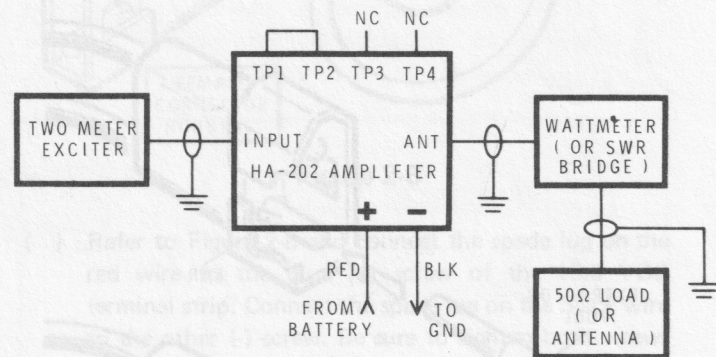

Figure 2-12
- ( ) Interconnect your equipment as shown in Figure 2-12. Be sure to use RG-58A/U coaxial cable for all leads which carry RF.